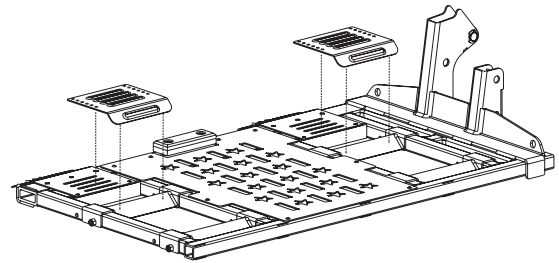

Figure 6-25
5. Once satisfied with the wheel chock positions, replace the entry ramps. See Figure 6-25.